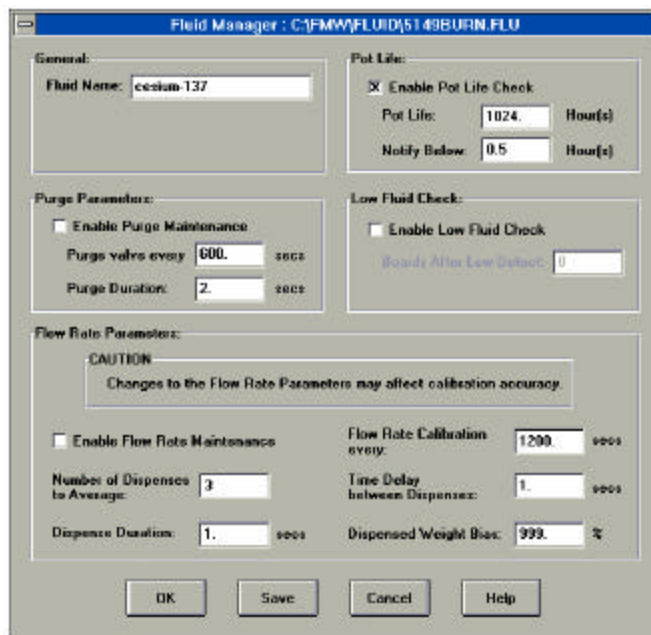

Figure 6-7
- ▶ The Fluid Manager dialog box, shown in Figure 6-7, opens.
6. From the Configuration menu, select Setup Fluid Manager to open the Fluid Manager dialog box, shown in Figure 6-7.